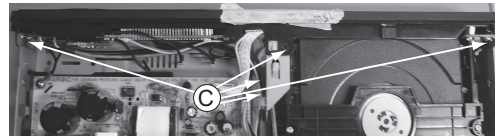
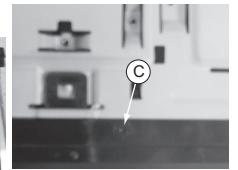

Figure 6A
Figure 6B
- 4) Loosen 6 screws "C" at the front panel bracket as in figure 6A & figure 6B to remove the front panel.